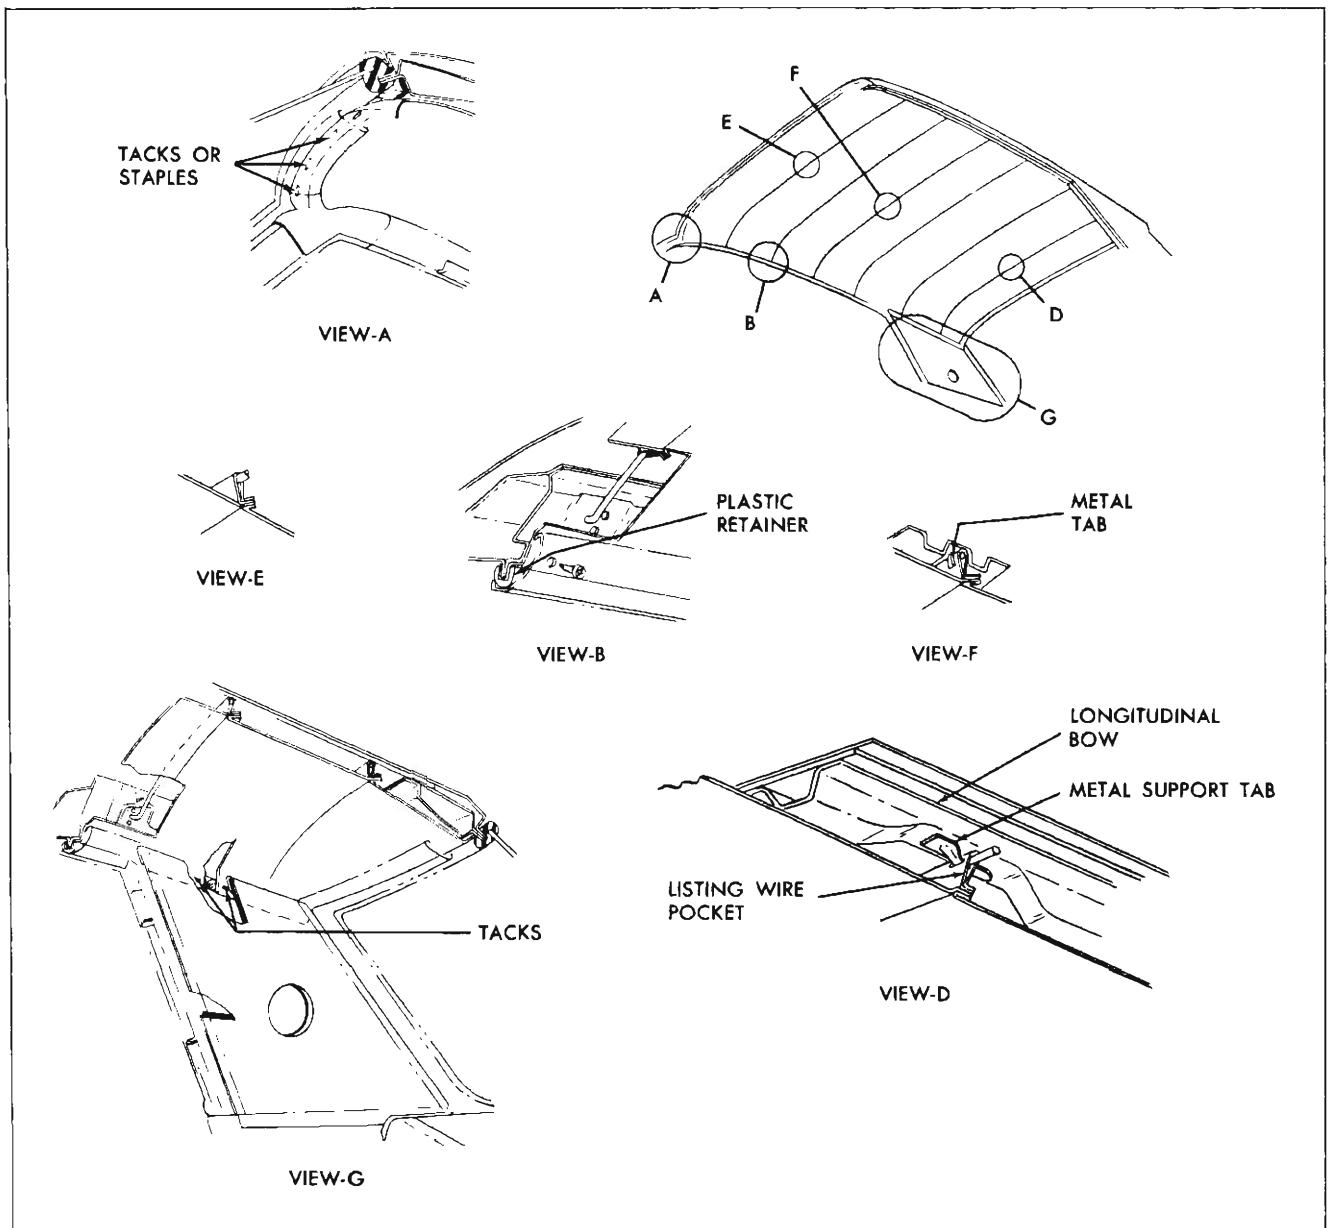
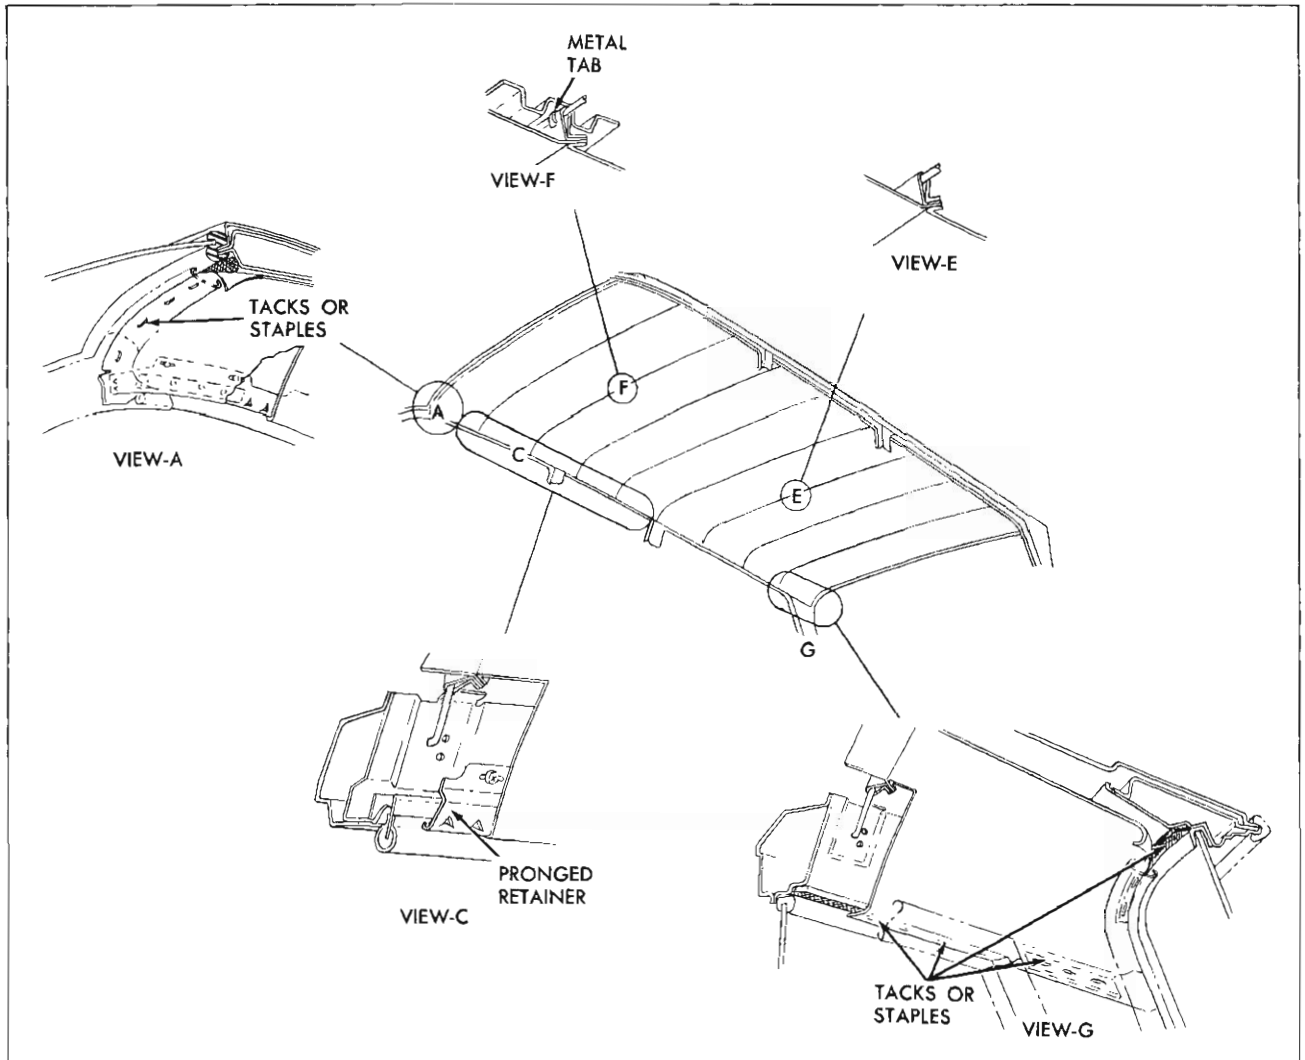
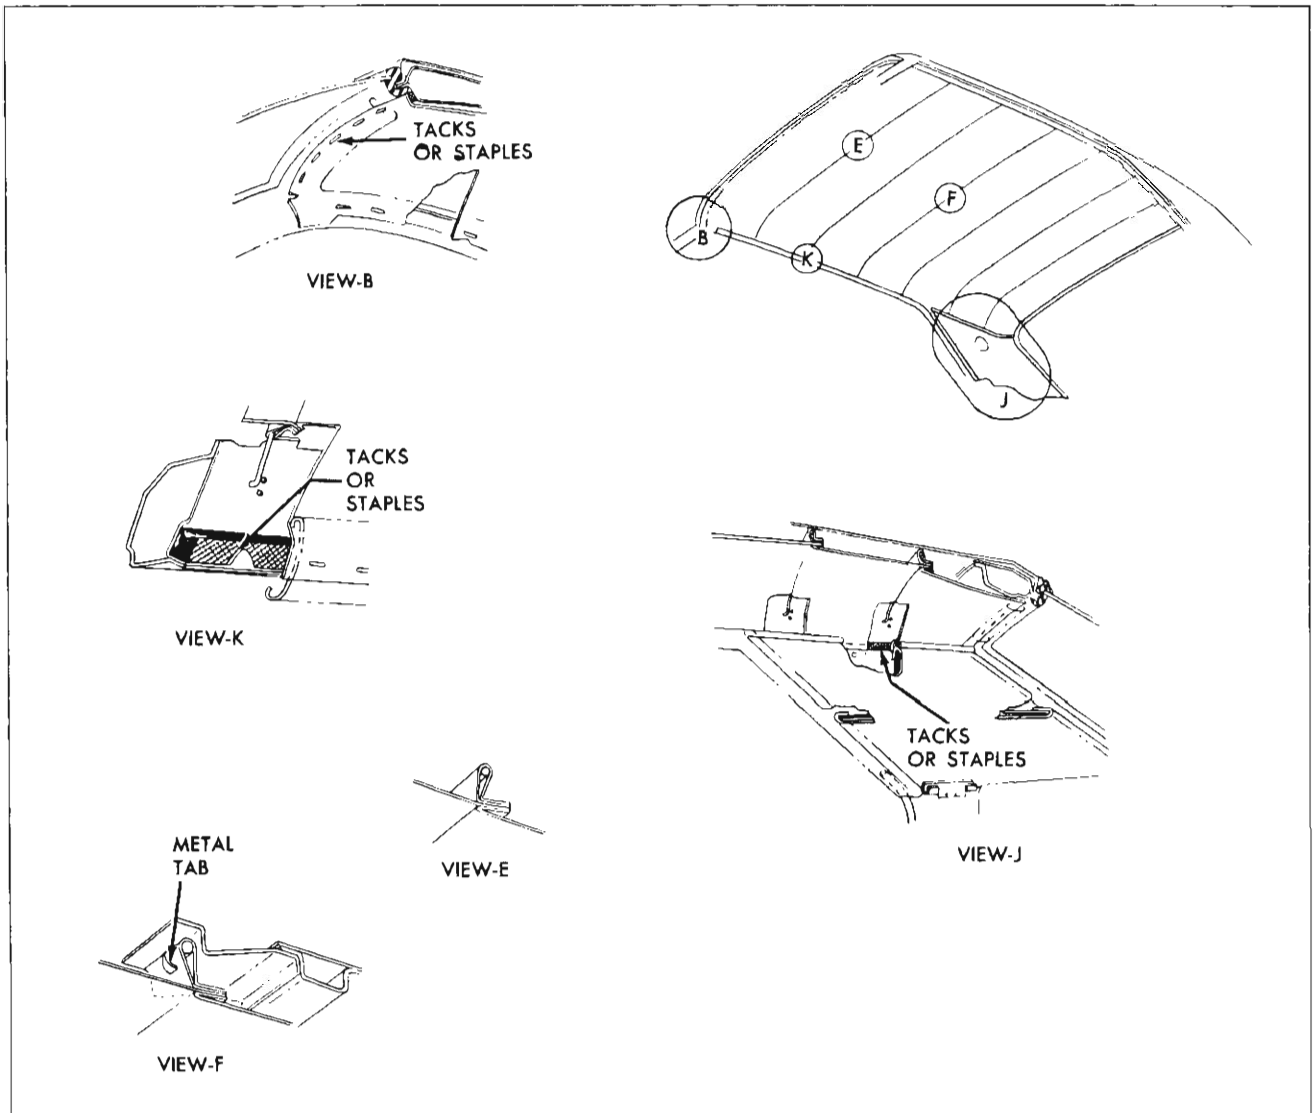
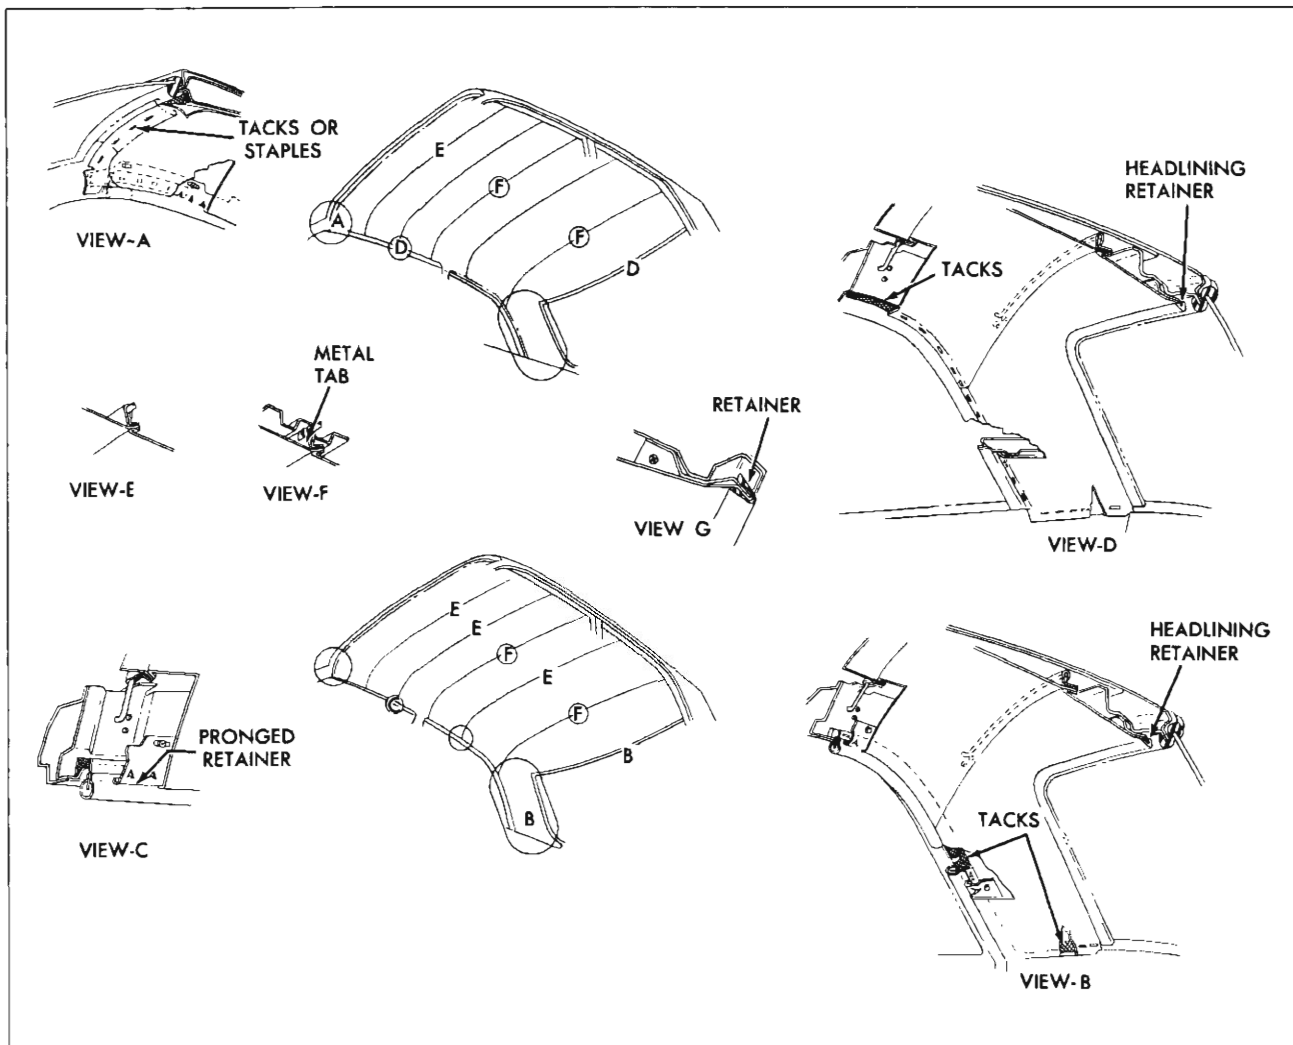

Fig. 111—Headlining Installation—39 Styles
Fig. 112—Headlining Installation—35 & 45 Styles
Fig. 113—Headlining Installation—47 Styles
Fig. 114—Headlining Installation—11 and 69 Styles
Description: The headlining assembly is formed to the contour of the roof panel by concealed listing wires (figs. 111, 112, 113 and 114.) Both ends of the listing wires are located in holes in the side roof rails.
4. On "11", "69", "35" and "45" styles, use headlining inserting tool, J2772 or similar wide-bladed tool and carefully disengage headlining from pronged retainer on side roof rails over door openings (View "C", Fig. 112 and View "C", Fig. 114).
On "47" style, remove tacks or staples along side roof rails and rear quarter areas (View "K" and "J", Fig. 113).
On "39" style, remove plastic retainer from side roof rail pinchweld flange (View "B", Fig. 111).
5. On "11", "35" and "45" styles, remove tacks or staples securing headlining at rear quarter windows (View "D", Fig. 114 and View "G", Fig. 112).
9. At front roof bow, bend down metal tabs securing listing wire (View "F", Fig. 111, Fig. 112, Fig. 114, Fig. 113).
10. On "39" styles, starting at front of body, carefully disengage No. 1 and No. 2 listing wires from holes in side roof inner rail assemblies and supporting tabs on longitudinal (front to rear) bow. In like manner, working from rear of body, disengage No. 6, No. 5, and No. 4 listing wires. (See View "D", Fig. 111). Exercise care to keep headlining material clean.
11. At No. 1 roof bow, bend down metal tabs securing No. 3 listing wire. (See View "F", Fig. 111).
cement is applied to both sides of retainer (View "G" and "B", Fig. 114).
6. At front roof bow, bend up metal tabs securing listing wire and listing wire pocket (View "F", Fig. 112, Fig. 114 and Fig. 113).
wide-bladed tool, install headlining around back window retainer on "11" and "69" styles. On all other styles, stretch and stay tack headlining at back window or back body opening. Stay tack headlining in rear quarter area where required. (View "G", Fig. 112, View "D" and "B", Fig. 114 and View "J", Fig. 113).
pronged retainer along both side roof rails (View "C", Fig. 112 and Fig. 114). Permanently tack or staple headlining at side roof rails on "47" styles. (View "K", Fig. 113).
11. On "39" styles lift entire headlining assembly into body and install No. 3 listing wire and listing wire pocket over metal tabs on No. 1 roof bow. Bend up metal tabs so listing wire is securely fastened to roof bow (View "F", Fig. 111). Be certain headlining material is centered in body.
12. If new headlining assembly is being installed, slit listing wire pockets at each tab location on longitudinal bow (approximately 1½" in length). (See View "D", Fig. 111). Working rearward from No. 3 listing wire, install listing wires into holes in side roof inner rail assemblies and over tabs on longitudinal bow. In like manner, working forward, install No. 2 and No. 1 listing wires.
19. Permanently secure headlining by tacking at windshield, back window and upper rear quarter areas. (See Views "A" and "G," Figure 111.)
20. Install plastic retainer along pinchweld flange of door openings. (See View "B", Figure 111.) Retainer should be evenly installed.